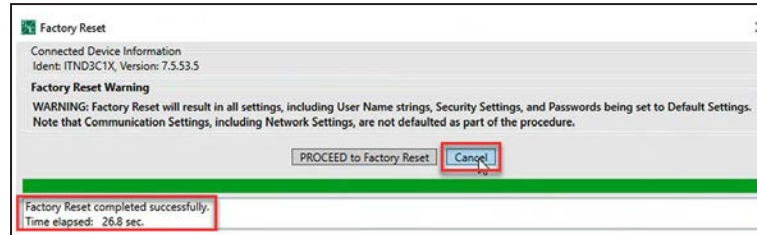

Figure 56. The Factory Reset completed successfully message.
STEP 5. When the **Factory Reset** procedure is completed, click on the **Cancel** button to complete the procedure. See Figure 56.